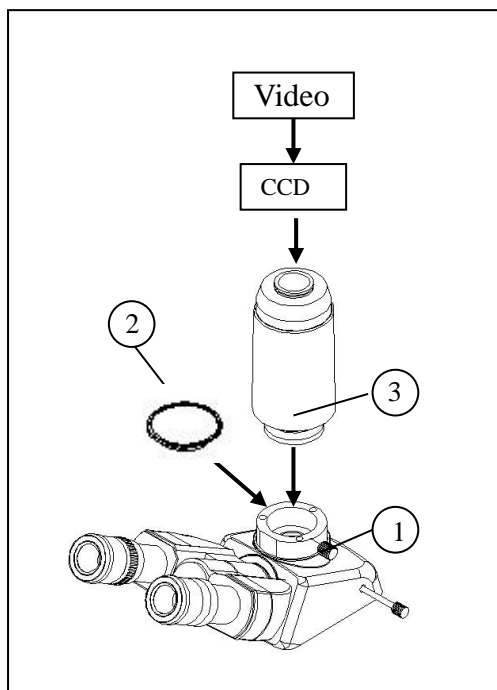

Fig.31
3.3.2 Installing the Video Set (Fig.31)
3.3.3 Focus (Fig.31)